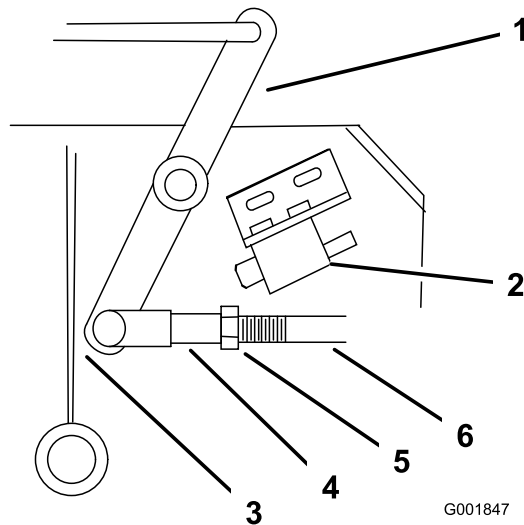

Figure 47
4. Adjust the linkage length to where the lower end of the bellcrank just clears the axle support gusset (Figure 47).
9. Loosen the nut against the yoke (Figure 47).